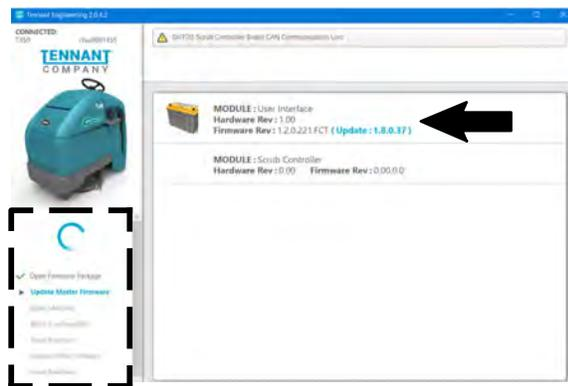

FIG. 25
11. The firmware update screen appears and will begin programming the machine for the new communication board. The process status indicator and firmware update status box appear on the left side of the screen. (Fig. 25)